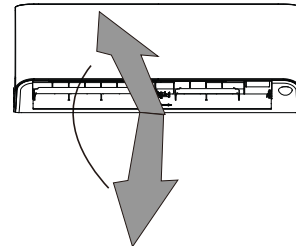

Fig. 14 —Up-Down Louver Position
1. Press **SWING** \updownarrow (up-down airflow) on the remote control once to activate the louver. Each time you press **SWING** \updownarrow the louver adjusts by 6 degrees. Press **SWING** \updownarrow until the preferred direction is reached (see Fig. 14).